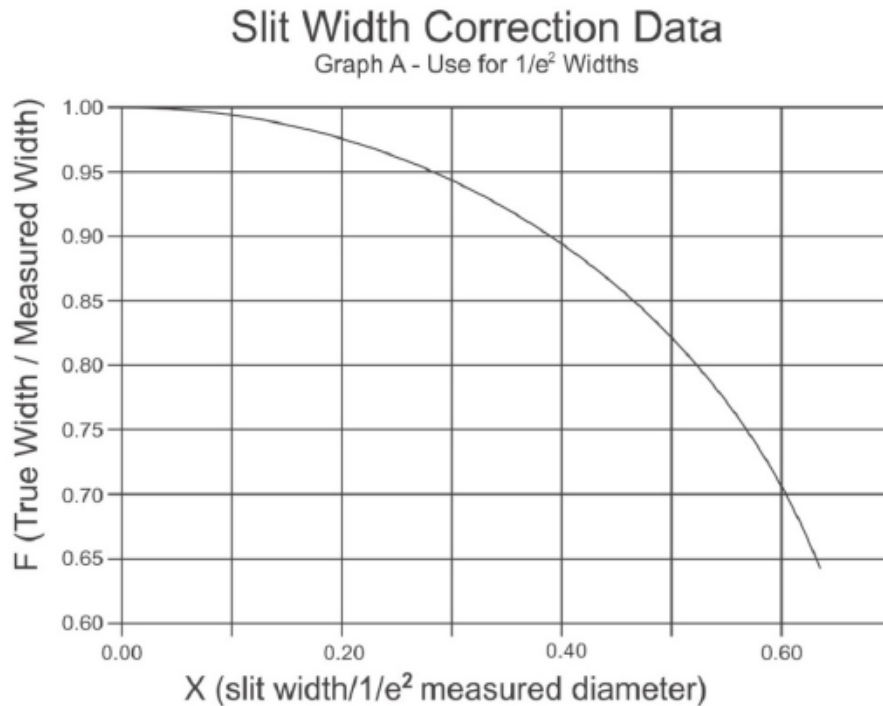
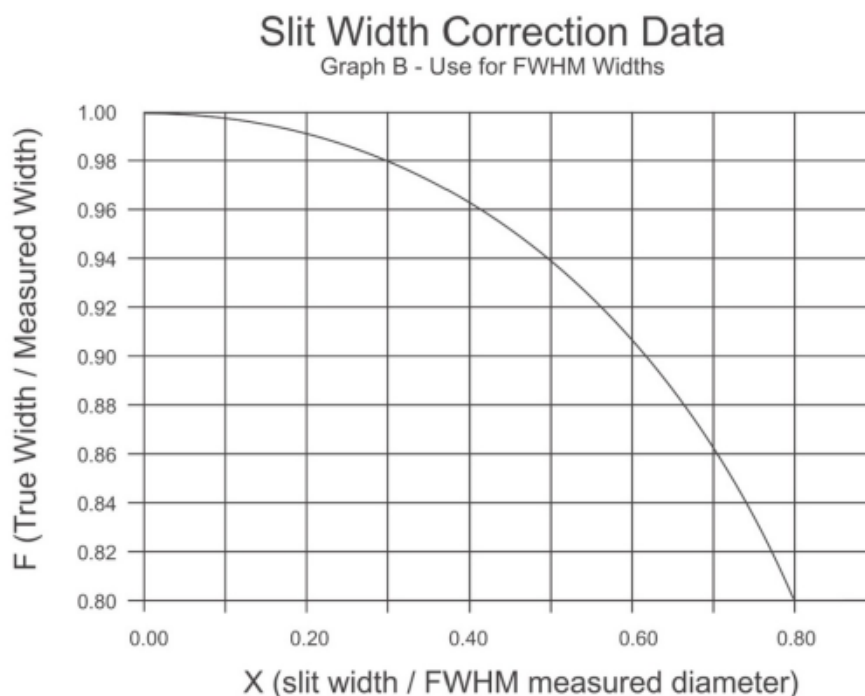

Figure 4.15 Slit Width Correction Data for $1/e^2$ Measured Widths
Figure 4.16 Slit Width Correction Data for FWHM Measured Width
The graphs in Figure 4.15 and Figure 4.16 are provided so that the actual width of the Gaussian profile, $G(x)$, can be easily determined from the width of the profile $M(x)$. These corrections have been computed for the two most commonly used threshold fractions, $1/e^2$ and FWHM. When other values of the threshold fraction p are used, the semi-empirical formula for F provides a closer approximation to the correction factor, provided that the slit width parameter x remains less than 0.5. The procedure for using these graphs to determine the true beam width of a Gaussian profile beam is also explained. (For distributions other than Gaussian, these
1. Use the graph in Figure 4.15 for all corrections if beam diameters are measured to the $1/e^2$ (13.5%) points. Use the graph in Figure 4.16 if the beam diameters are measured to the FWHM points (50%).